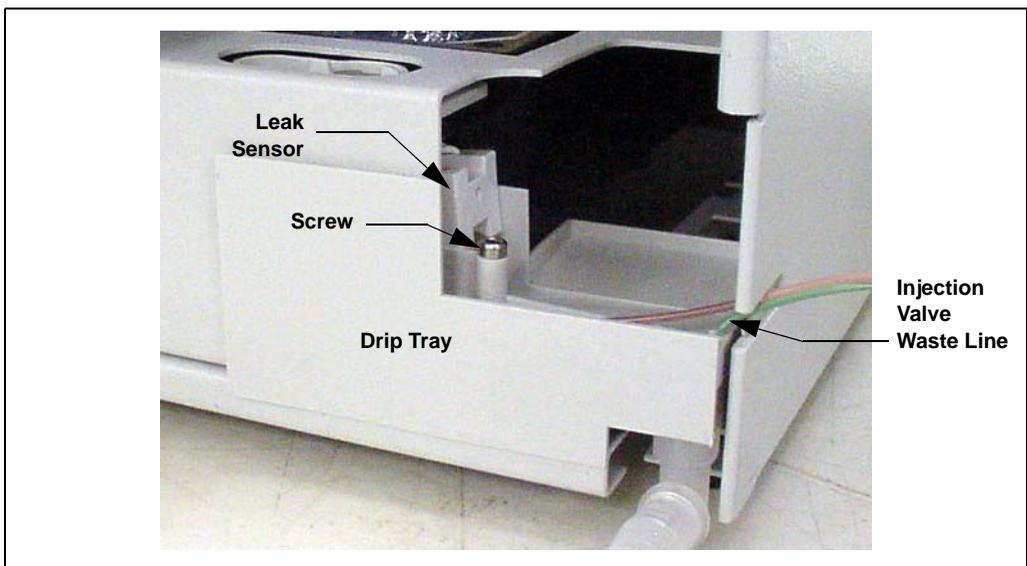

Figure 5-10. Removing the Drip Tray
1. Using a 2.5-mm Allen wrench, remove the screw that secures the drip tray and remove the injection valve waste line from the front of the tray (see Figure 5-10).
3. Tilt the bottom of the tray out slightly and push the tray down slightly until the leak sensor on the inside of the tray (see Figure 5-10) clears the overhang on the front of the sampler.